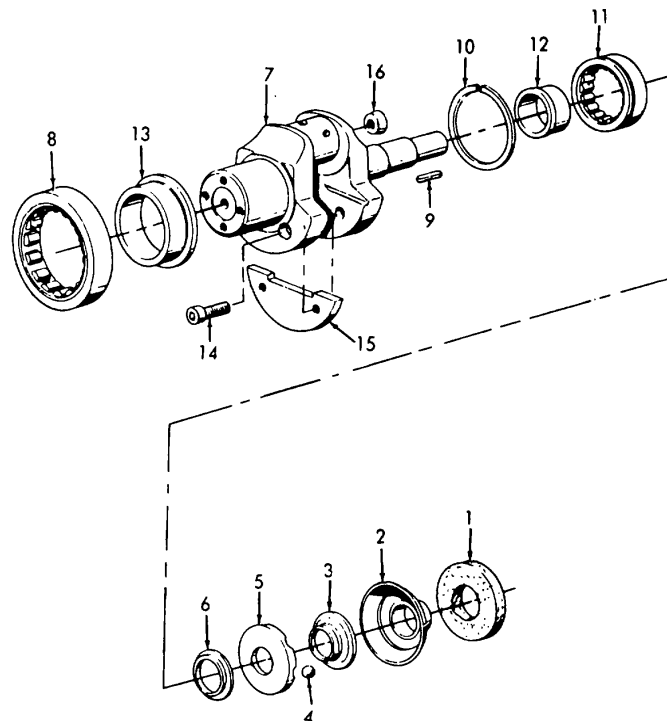

Figure 6-13. Crankshaft Installation.
- (1) Inspect crankshaft for nicks or scratches on bearing journals.
- (2) Inspect all bearings inner and outer races for pitting or signs of wear.
d. Installation. (Refer to figure 6-13).
- (1) Install plug (16) into crankshaft (7).
- (2) Position counterweight (15) on crankshaft and secure with two screws (14). Torque screws to 16.23 ft-lbs (22 Nm).